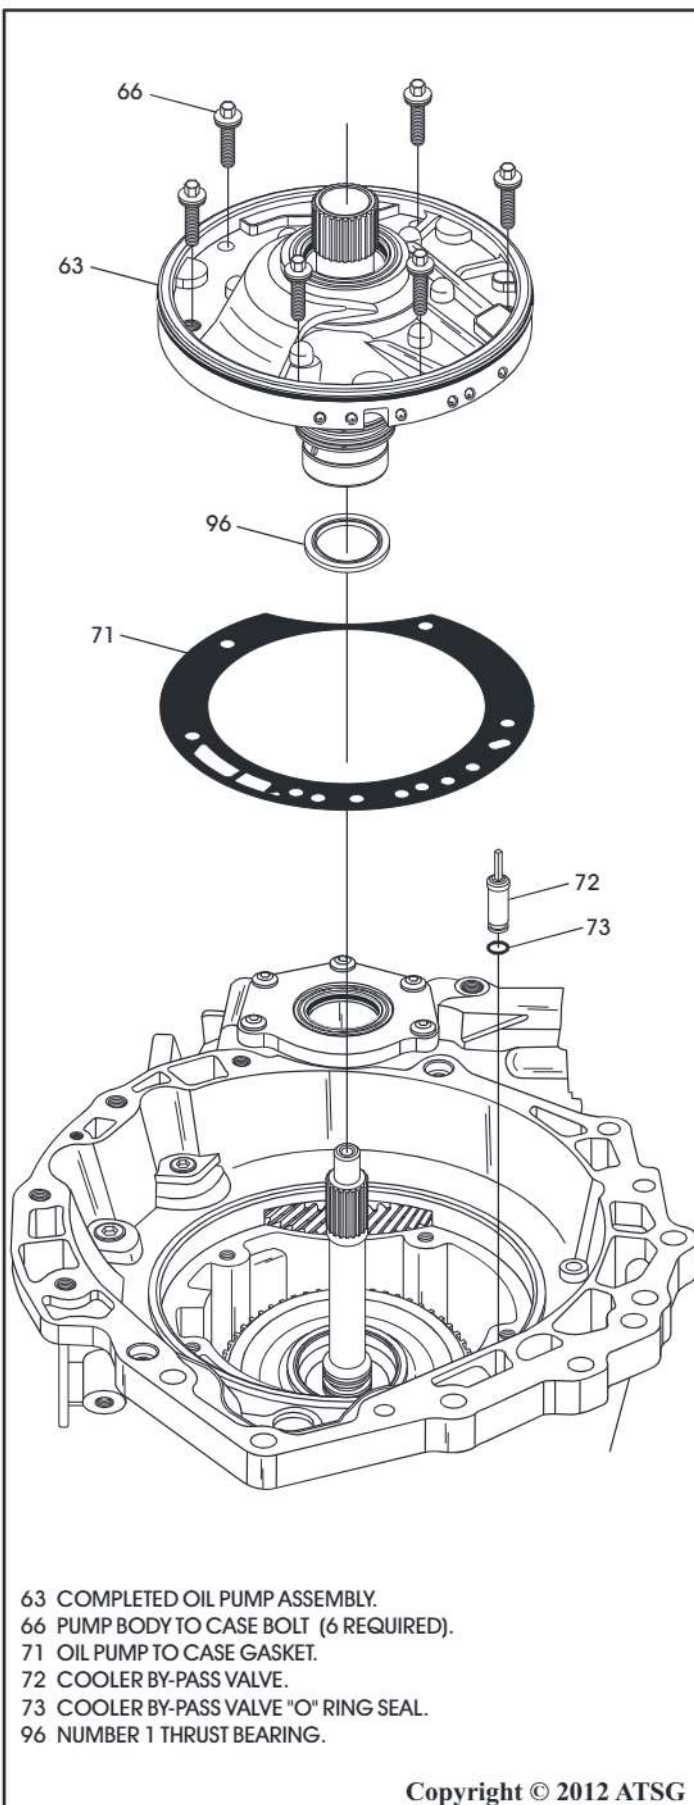

Figure 263
62. Ensure that number 1 thrust bearing is in place in the input housing (See Figure 263).
63. Install new oil pump to case gasket into the case, as shown in Figure 263.
64. Install the completed oil pump assembly into the case, as shown in Figure 263.